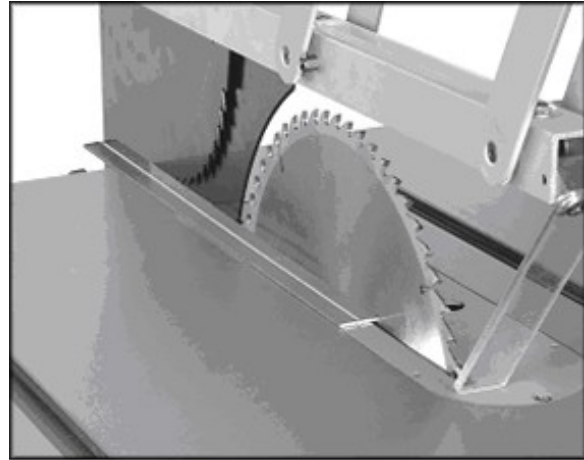
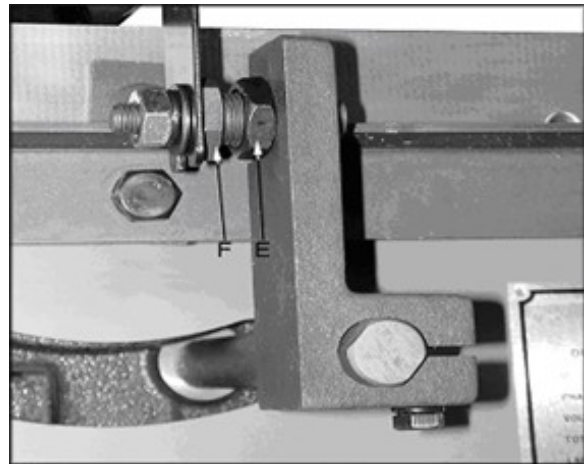

Figure 20
Figure 21
9. Place a straight edge against the splitter and blade to make sure they align, as shown in Figure 20. If adjustment is necessary use the provided wrench to loosen the jam nut (E, Figure 21) on the rear fork. Thread the guard support in, or out by turning the hex head (F, Figure 21) to bring the splitter in line with the blade. Repeat the same procedure for front fork.
10. Tighten the jam nut (E, Figure 21) and tighten the hex nut (D, Figure 21) with the provided wrenches. Repeat the same procedure for the front fork. Recheck the splitter alignment and adjust if necessary.